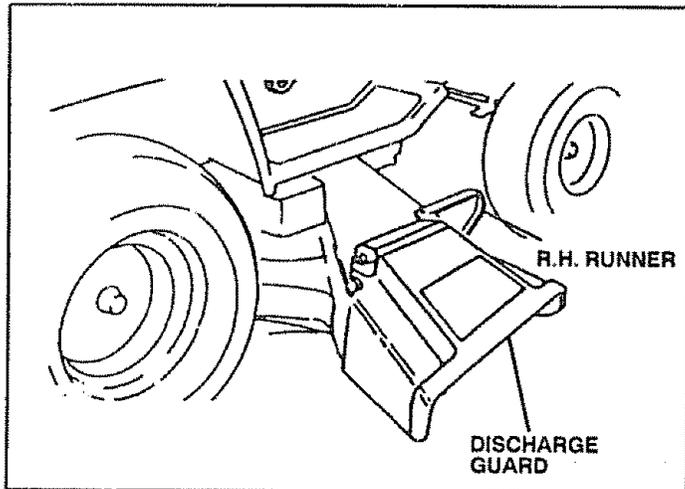

FIG. 9
- Use the runner on the right hand side of mower as a guide. The blade cuts approximately an inch outside the runner (See FIG. 9).